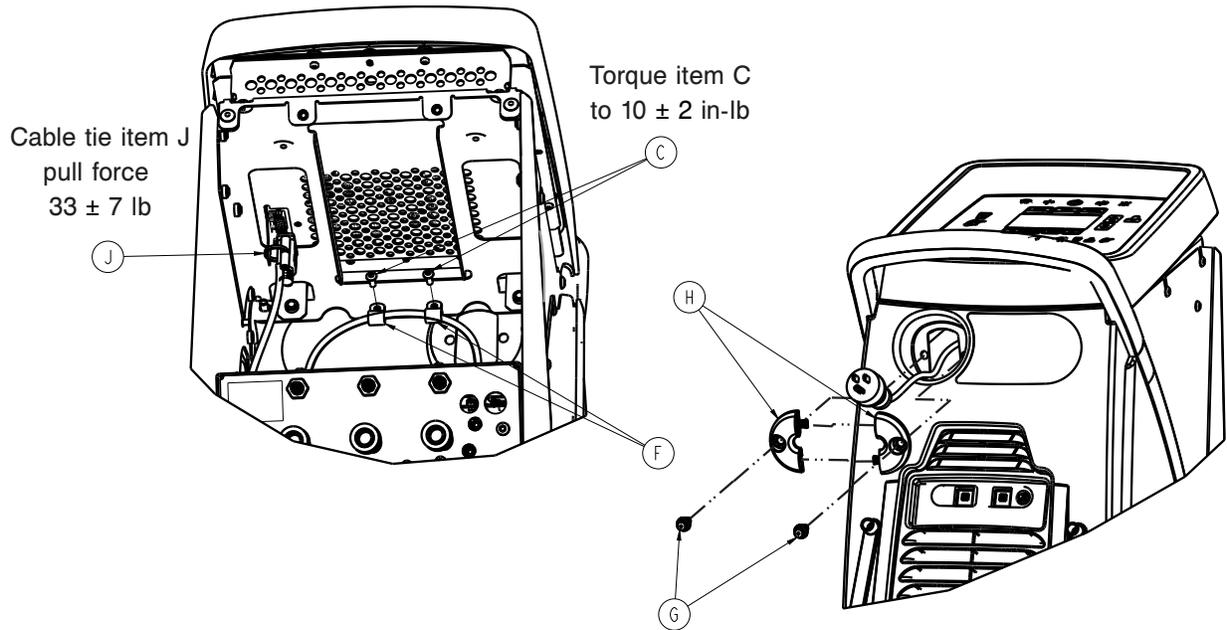

Figure 14 – Power cord to the top bracket
- Using a T25 Torx driver, remove the two screws (C) and cable clamps (F) that secure the power cord to the top bracket (Figure 14). Save the screws and cable clamps.